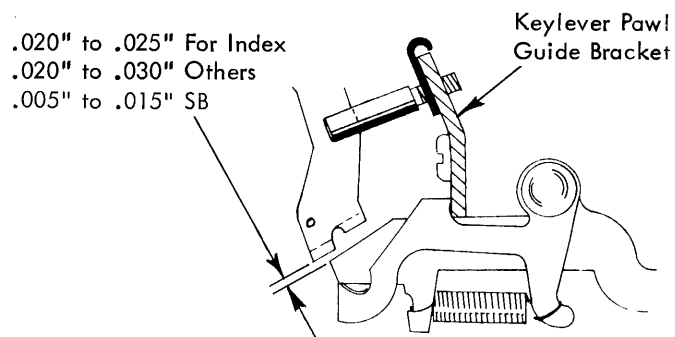

FIGURE 158. Keylever Pawl To Interposer Clearance Adjustment
- a. Adjust the height of the interposers by positioning the keylever pawl guide bracket up or down to obtain a clearance of $.020''$ to $.025''$ between the index keylever pawl and the index interposer at rest (Fig. 158). The keylever pawl guide bracket should be kept horizontal.
- b. The adjusting slot in the carrier return, backspace and tab keylevers should be formed to obtain $.020''$ to $.025''$ clearance between the keylever pawl and the interposer at rest (Fig. 158).
- c. Adjust spacebar lever eccentric with the high part forward to obtain a keylever pawl to interposer clearance of $.005''$ to $.015''$ (Fig. 158).